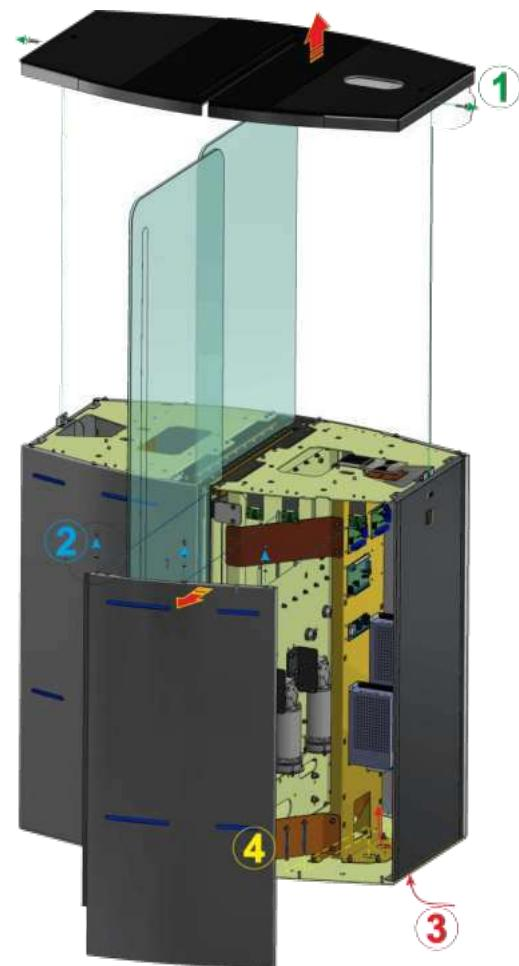

Fig.16 – General view of the "JetPan-900-1" turnstile cabinet installation
1. – remove the turnstile lid by unscrewing screws on the ends (See Fig. 16);